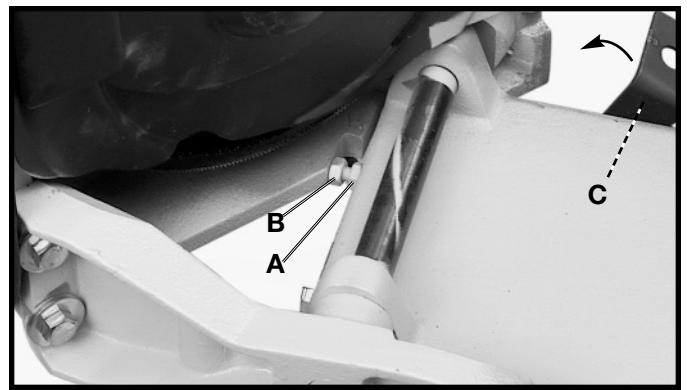

Fig. 32
1. Move the cutting arm to the vertical position and lock in place with the arm positioning lever (C) Fig. 32. Stop screw (A) Fig. 32 should bear against base casting when arm is in the vertical position. If adjustment is needed loosen lock nut (B) and adjust screw (A).